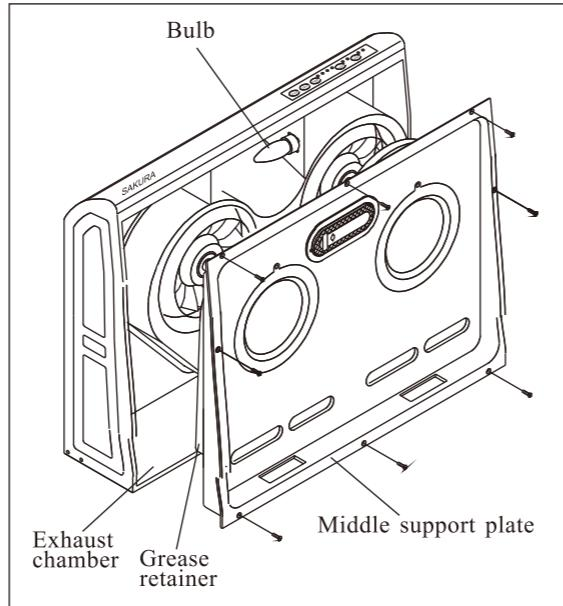
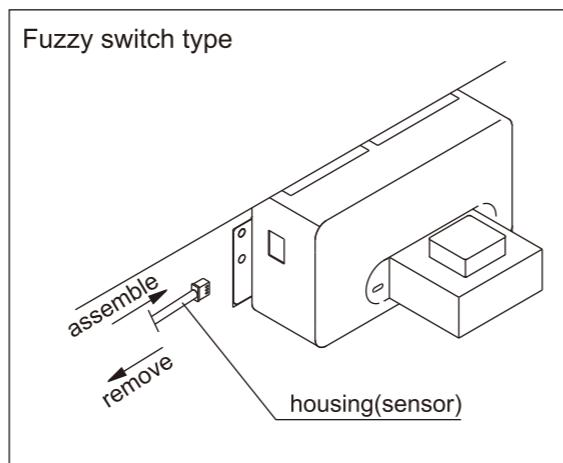

Fig. 10 Remove the middle support plate
Fig. 11 Plug the housing sensor
7. Loosen the screws on the middle support plate with a philips screwdriver. Remove the middle support plate and then pull out wire housing of sensor. After wire power supply cord, please make sure to plug the housing of sensor in before you re-screw the middle support plate up. (Fig.10/Fig.11)